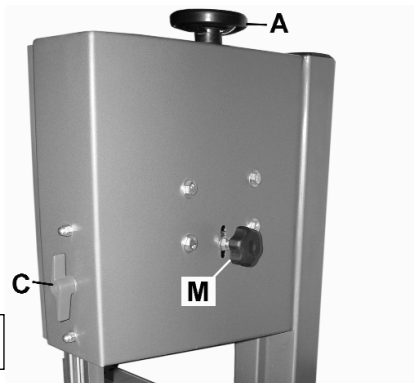

fig.2
- 4.3.2. If adjustment is needed, turn the tracking knob (fig.2.M) whilst continuing to turn the upper blade wheel. Note the effect on the tracking and continue to turn tracking knob until tracking is correct.